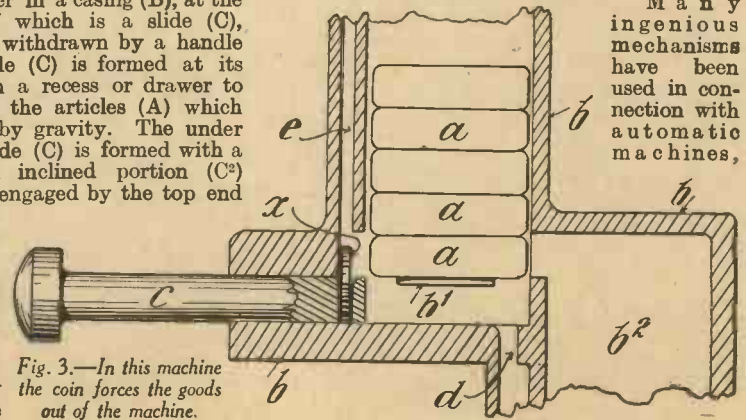

Fig. 3.—In this machine the coin forces the goods out of the machine.
movement and weight of the coin momentarily depresses the lever, causing its forward end to push up the slide (C) and with it the cigarette above it. The cigarette then rolls over the stop (B1) into a tray (B2) situated on the outside of the casing. In Fig. 3 is shown another method in which the coin is utilised to actually contact with the goods to deliver them. The packeted goods (A) are piled vertically in a casing (B), the lowermost one resting on side flanges (B1). A spring-controlled slidable push rod (C) is slotted at its inner end to receive a coin (X) as it emerges from a chute (E). On pressing in the rod (C), the top part of the coin engages the edge of the article and pushes it out into a delivery shoot (B2). At the end of the travel of the rod, the slot carrying the coin coincides with a slot (D) and falls through into a coin receptacle.